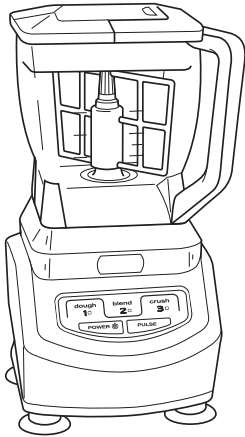

Fig. 12
- 1 Place the motor base on a clean, dry, level surface such as a counter or table top. **(Fig. 12)**
- 4 Add the ingredients and secure the bowl lid onto the bowl. **(Fig. 12)**